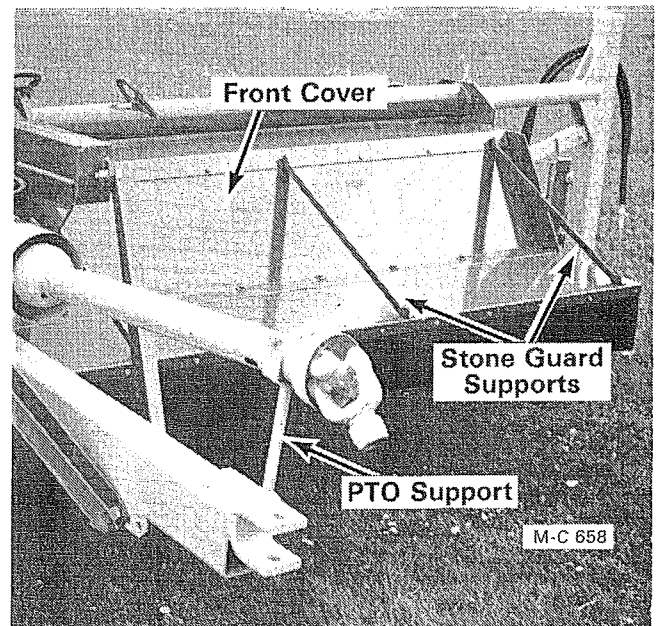

Figure 15K
11. Remove the pole jack and store it on the jack mount on the right side of the Shredder. Put the PTO support on the pole and place the PTO shaft on it, see Figure 15K.